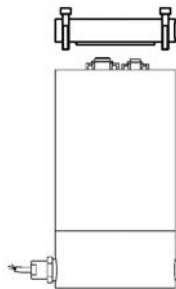

Fig.5
- mount crown (without pick up) (Fig. 5)
- mount crown (with pick up) (Fig.5)